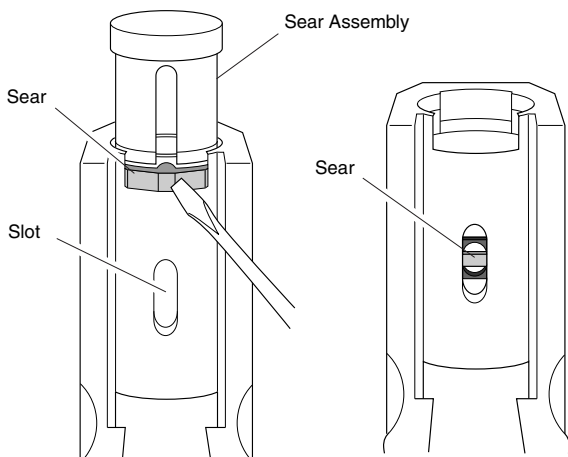

Figure 10 - Inserting Sear Assembly Into Cylinder As Viewed From Bottom Of Tool
1. Insert push pin into tool body (see item 11, page 17, for push pin location). Hole for push pin is located in cylinder at rear of tool. The hole for the push pin is located beside center hole in cylinder. Insert narrow end of pin first.
2. Insert sear assembly into cylinder at rear of tool body. Sear assembly consists of sear, spring, and sear holder (see items 20, 21, & 22, page 17). Insert sear assembly sear-end first (see Figure 10). Make sure sear is pointing towards bottom of tool. **Note:** Use screw driver to depress sear so sear assembly can pass into cylinder. Press sear assembly into cylinder until it stops. **Note:** Sear can be seen through slot in bottom of cylinder. Use screw driver to depress sear through slot. Move sear assembly further into cylinder until sear is located at center of slot.